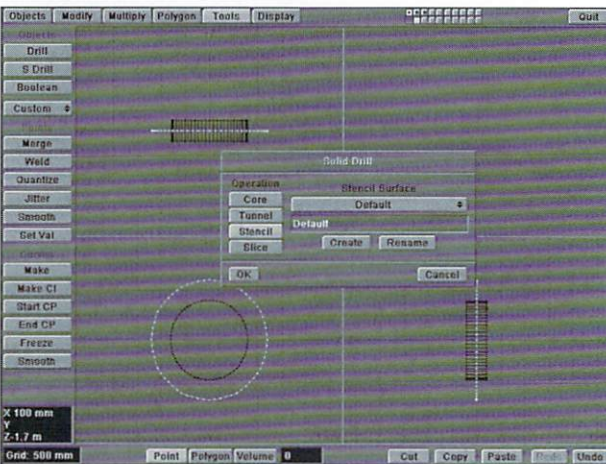

Figure 4: Preparing to Stencil the disc.
- Choose the original disc as the foreground layer and the second disc as the background layer (Figure 4), and select Solid Drill (S Drill) from the Tools panel. Choose Stencil and perform the operation.